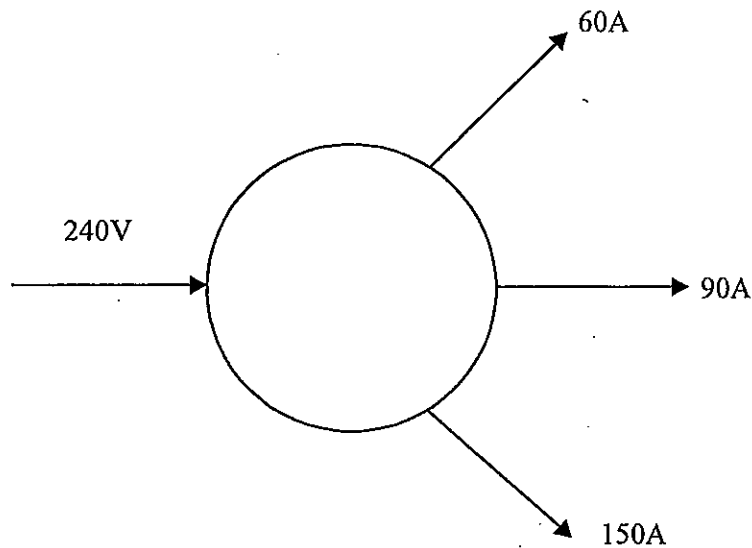

Fig Q2
2. Fig Q2 shows a ring main of total length 1000m fed at 240V d.c. Three loads are taken from the ring, 60A at 200m, 90A at 500m and 150A at 700m from the feed point respectively, all distances being measured in a clockwise direction.